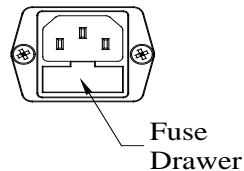

Figure 2
- Pull back on the fuse drawer (see Figure 2).